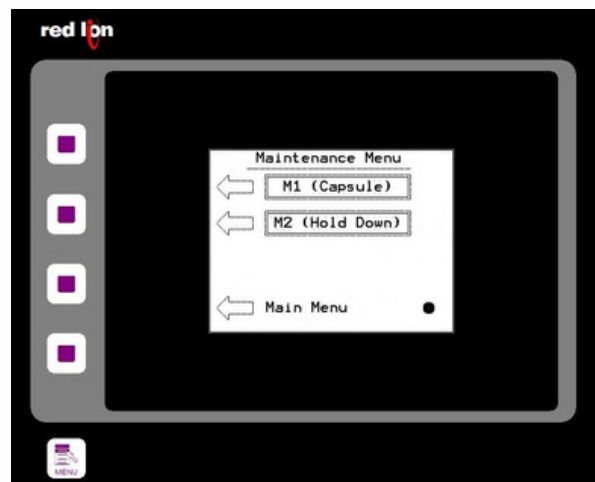
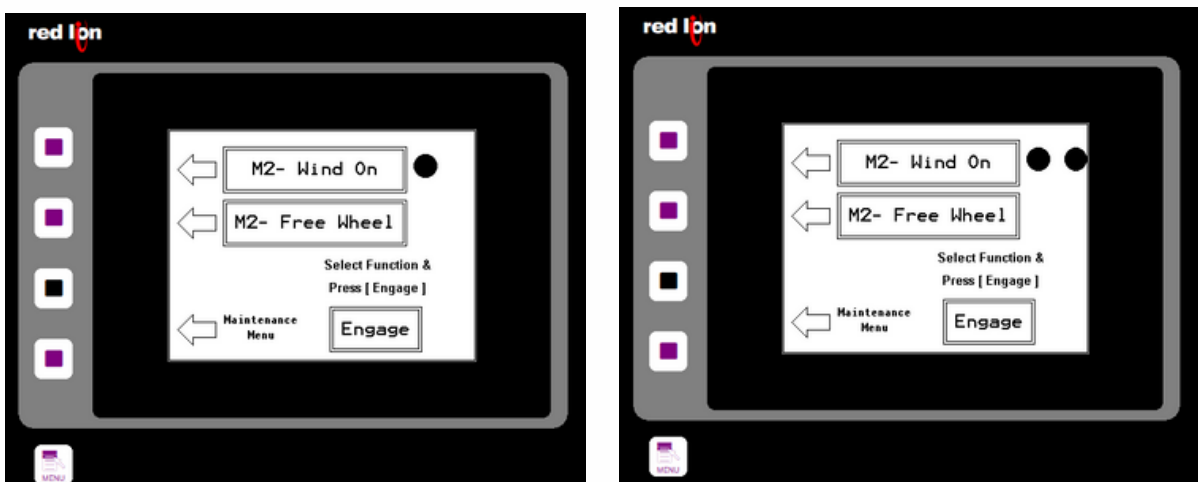
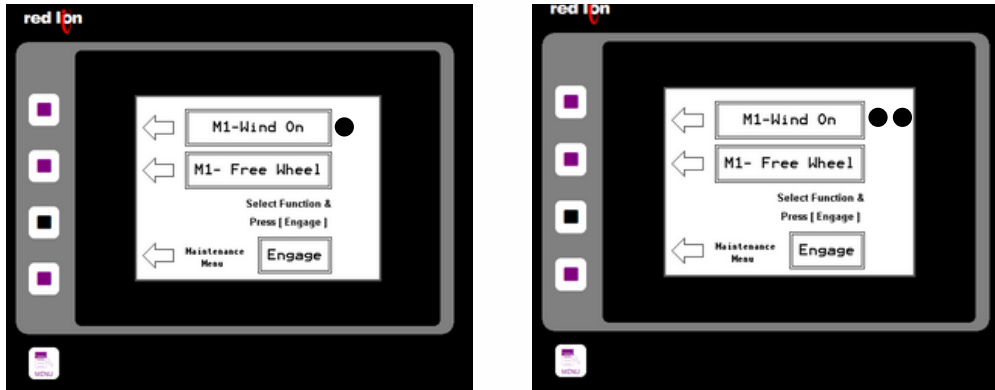

Figure 5.4. The maintenance menu page on the deck service box.
Figure 5.6. Selecting M2 wind on, on the deck service box
Figure 5.7. Selecting M1 wind on, on the deck service box
- 7 Go back to the maintenance menu (Figure 5.4) and select M2 hold down. Press M2 – wind on and wait a few seconds for a black circle to appear on the right, then press engage and wait a few seconds for a second black dot to appear alongside the first one (Figure 5.6). Now press the cycle button which will take the traveller to the bottom of the track.
- Go back to the maintenance menu (Figure 5.4) and select M1 capsule. Press M1 – wind on and wait a few seconds for a black circle to appear on the right, then press engage and wait a few seconds for a second black dot to appear alongside the first one (Figure 5.7). Now press and hold the cycle button. This will bring the capsule back to the traveller. Stop pressing the cycle button as soon as you hear the capsule engage with the traveller. The M1 recovery rope will stop moving once the capsule engages with the traveler.